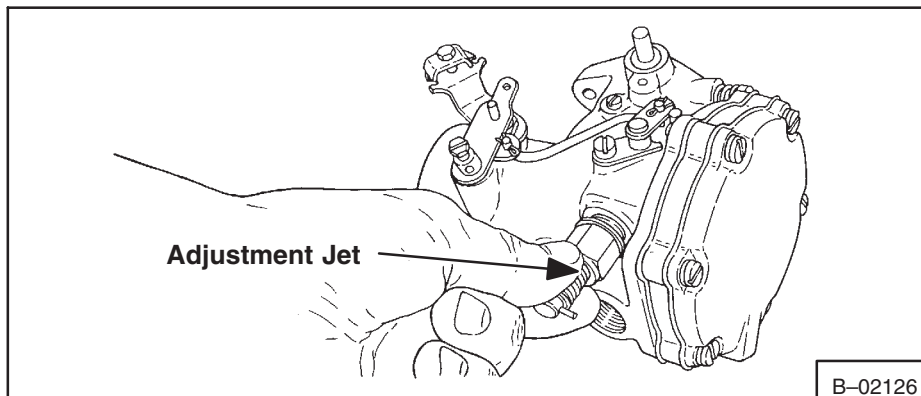

Fig. 7A-10 Removing Adjustment Jet & Idler Adjustment Screw
1. Remove the adjustment jet and idle adjustment screw (Fig. 7A-10).
2. Remove the five screws which hold the diaphragm assembly in place. Lift the complete assembly off the carburetor (Fig. 7A-11).